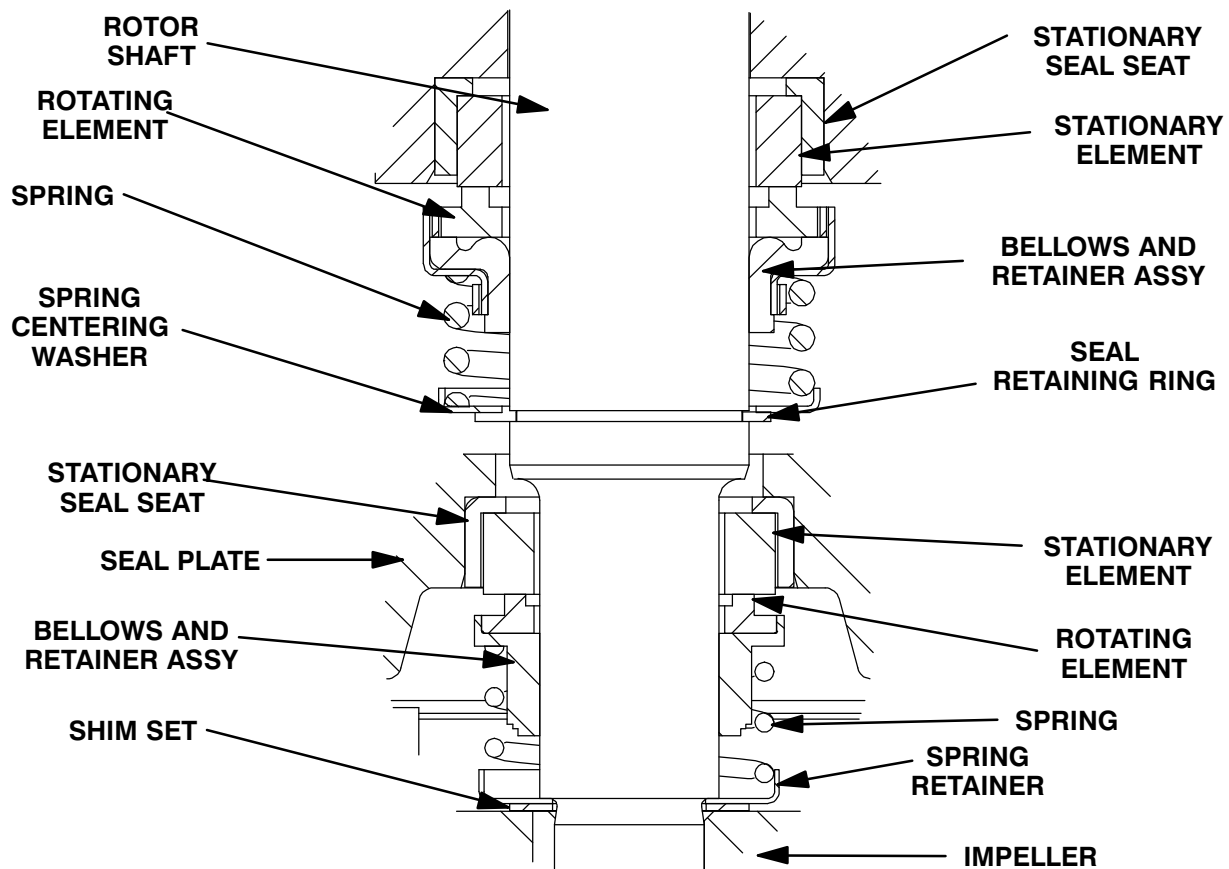

Figure E-3. Upper And Lower Seal Assemblies
Install the shaft seals as illustrated in Figure E-3.
Slide the seal spring over the shaft and bellows retainer and install the spring centering washer. Install the seal retaining ring (10). See Figure E-3 for the proper order of seal assembly.
Install the seal spring over the bellows retainer and install the spring retainer (19). See Figure E-3 for proper order of seal assembly.